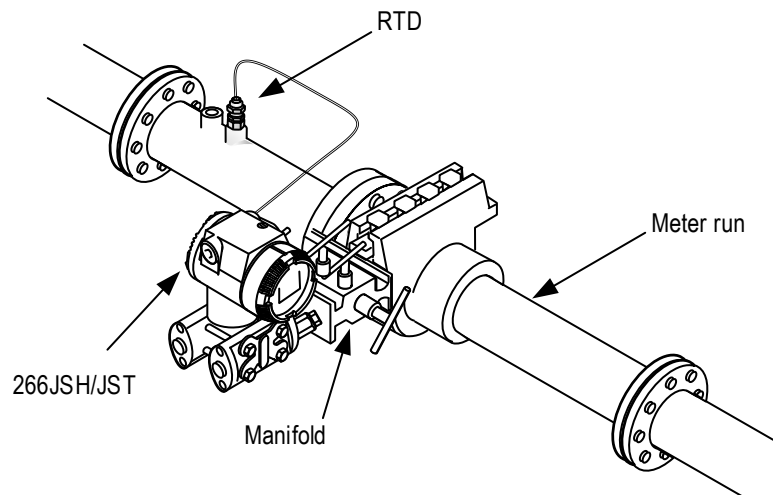

Figure 13: Horizontal flange assembly, direct mount (for illustrative purposes only)
1. Determine where the transmitter is to be placed on the meter run so that the high side (+) is upstream (Figure 13).